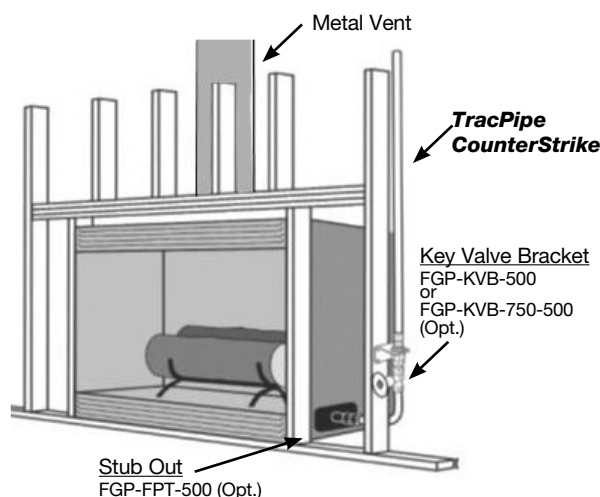

Figure: 4-40
1. **TracPipe® CounterStrike®** shall not be directly routed into a metallic gas appliance enclosure utilizing a metallic vent which penetrates a roofline. The **TracPipe® CounterStrike®** connection shall be made outside of the metallic gas appliance enclosure to a segment of rigid metallic pipe, a stub-out or a termination fitting (Figure 4-40).